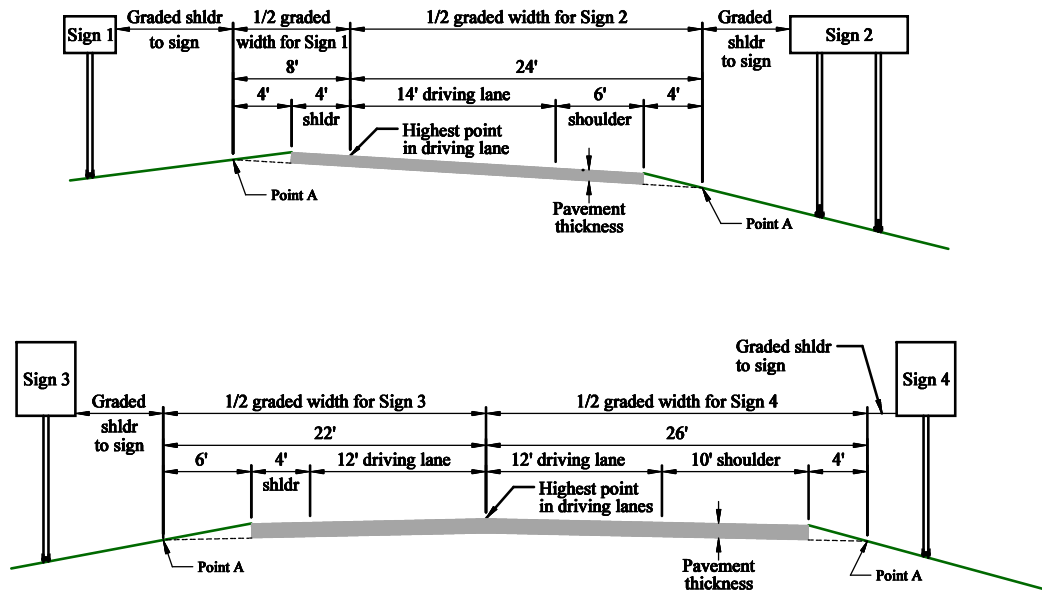

Figure 8 – Graded Width Examples for Pipe/W-Shape Supports
43. **Graded Width:** The graded width is double the distance, in inches, from the highest point in the driving lane(s) to the point where the bottom of the pavement depth intersects the inslope (Point A in Figure 8.) The program assumes that the roadway is symmetrical and if it is not, it has to be adjusted as shown in the examples below. For Sign 2, the graded width is calculated as  $24' \times 2 = 48'$  or  $576''$ .
44. **Graded Shldr to Sign:** The distance, in inches, from the edge of the graded width to the edge of the sign(s) closest to the roadway. For example, the graded shoulder to sign distance for Sign 1, in Figure 8, can be calculated as 18' (the minimum required horizontal distance, see ND Standard Drawing D-754-1) minus 4' (shoulder width) minus 4' (distance from the shoulder to Point A.) Therefore, the graded shoulder to sign distance for Sign 1 is 10' or 120".